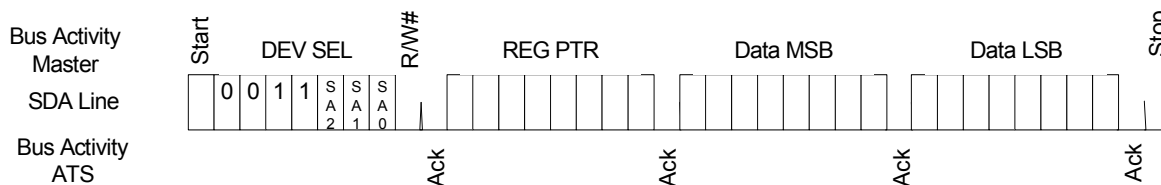

Figure 10 — TS Register Write Operation
Writing to the TSE2002av Temperature Register Set is accomplished through a modified block write operation for two (2) data bytes. To maintain I2C compatibility, the 16 bit register is accessed through a pointer register, requiring the write sequence to include an address pointer in addition to the Slave address. This indicates the storage location for the next two bytes received. Figure 10 shows an entire write transaction on the bus.
The register set address are shown in Table 4. These values are used in the I²C operations as the “REG\_PTR” in Figures 10 through 13.